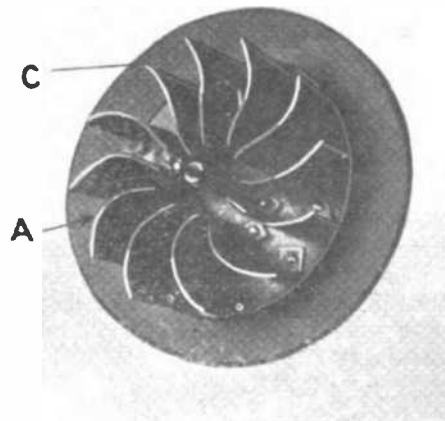

Fig. 1.
The circular cover (C) shown in Fig. 1 should also be turned, from $\frac{3}{8}$ -in. stuff, the diameter being $7\frac{1}{2}$ in. with a $\frac{7}{16}$ in. hole in the centre for the fan shaft. The cover for the other side of the box is not circular but comes to a square edge on one side, tapering from the full diameter of $7\frac{1}{2}$ in. to a width of 5 in. on the square portion.